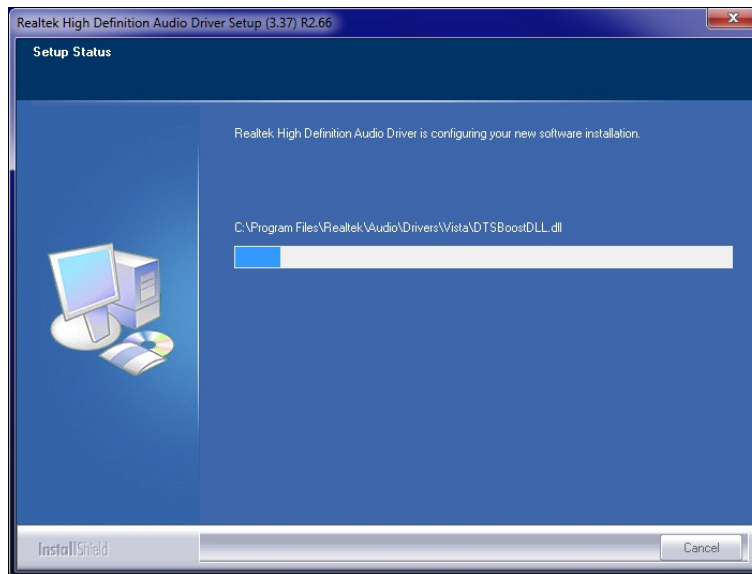

Figure 6-25: Audio Driver Software Configuration
Step 7: InstallShield starts to install the new software as shown in **Figure 6-25**.